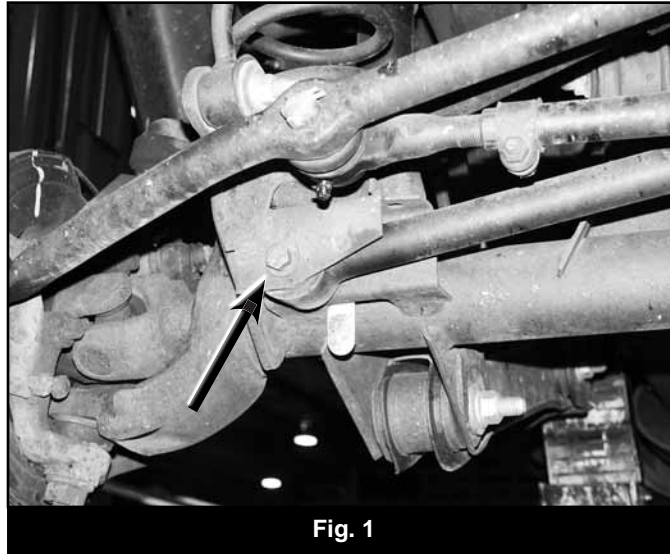

Fig. 1
4. Disconnect the front track bar from the passenger's side of the front axle (Fig 1). Retain hardware.